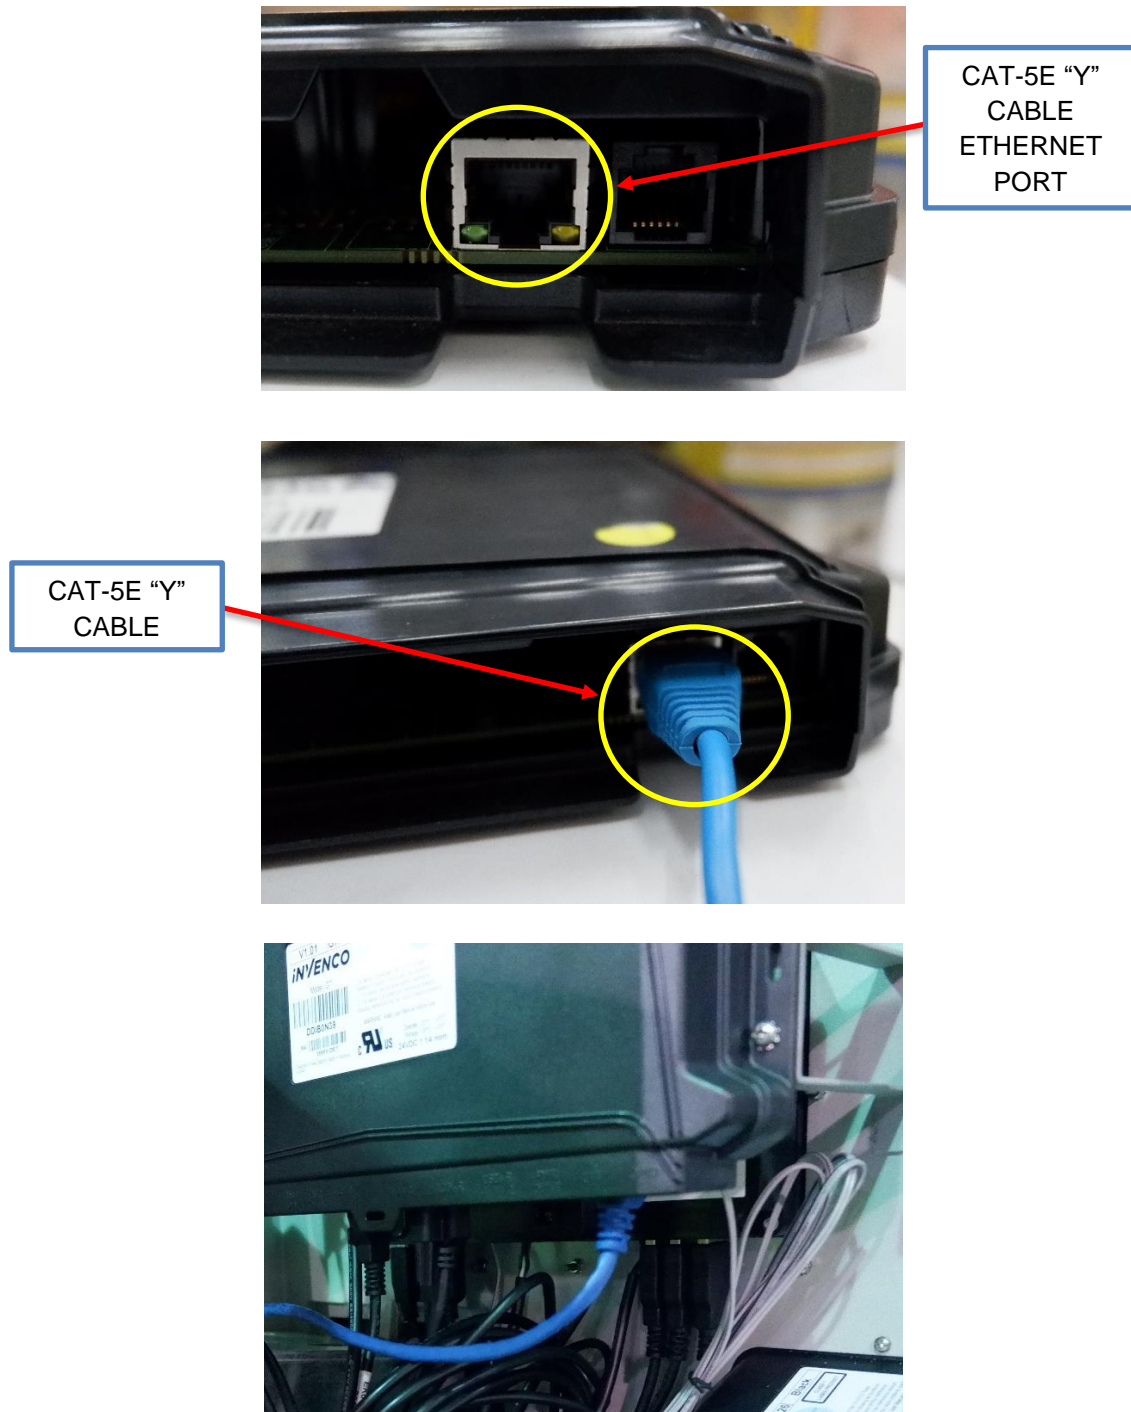

Fig 3.3 – Connecting the Cat-5e “Y” cable.
- b. Connect the Cat-5e “Y” cable to the IP0127 (APC) ethernet port. (Fig 3.3)